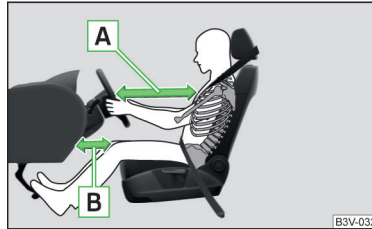

Fig. 23
- It is important for the driver and front passenger to maintain a minimum distance of 25 cm from the steering wheel or the control panel » Fig. 23 - . If you do not observe this distance, the airbag cannot protect you - risk to life! The front seats and the head restraints must always be correctly adjusted to match the body size of the occupant.
- Adjust the driver's seat in a forward/back direction so that there is a gap of at least 6 cm between the legs and the dashboard in the vicinity of the knee airbag » Fig. 23 - **B**. If it is not possible to meet this requirement due to your body size, visit a specialist garage.